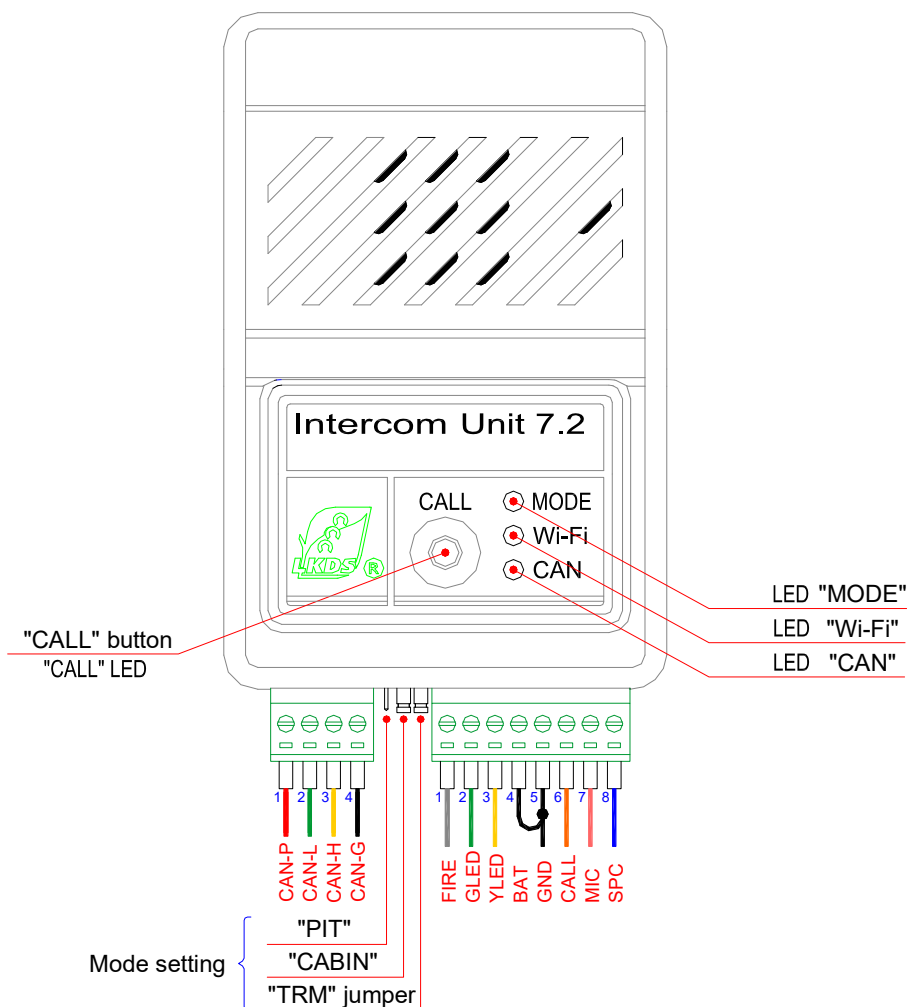

Fig. 1. Appearance of IU 7.2, sockets, controls and indicators
- 1.6.1. IU 7.2 designed as a plastic box (see. Fig. 1). There are several controls could be found on the front panel: